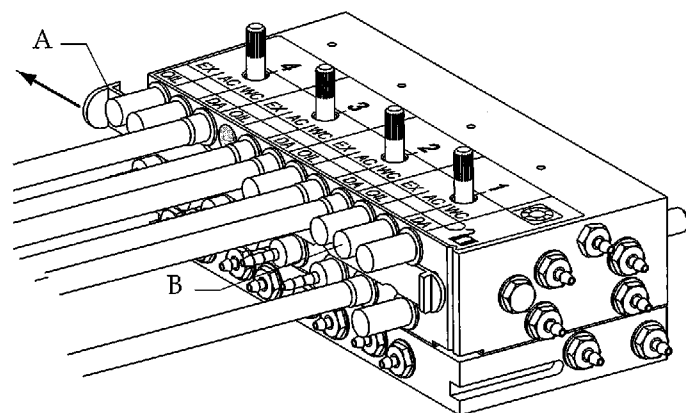

Figure 89. Plug open holes on the control block. (A) slidlock; (B) control block plug
6. Plug the open holes in the control block as shown in Figure 89.